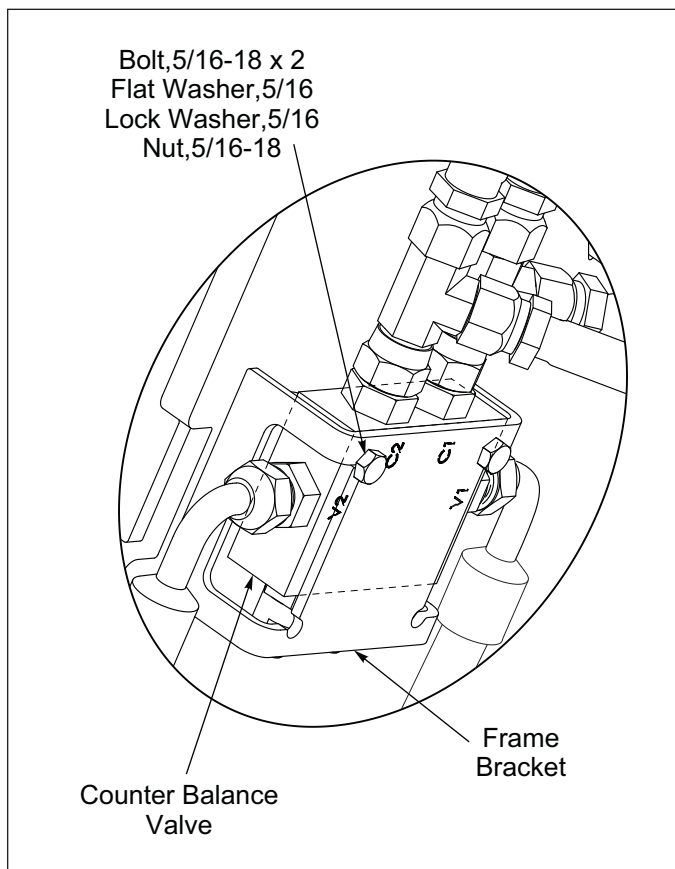

Figure 2-24: Counter Balance Valve
1. Attach the Counter Balance Valve to the inside frame bracket with 5/16-18 x Bolt, Flat Washer, Lock Washer and Nut, **See Figures 2-24 and 2-25.**